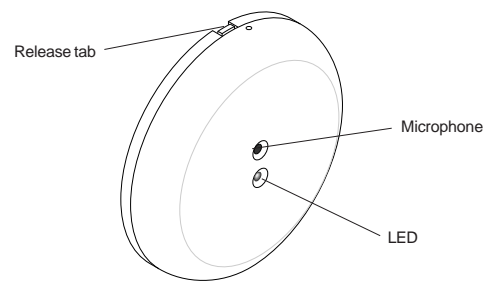

Figure 4. Housing Parts
2. To remove the front cover, press the release tab on the lip of the base, twist the cover counter clockwise, and lift off. See Figure 4.